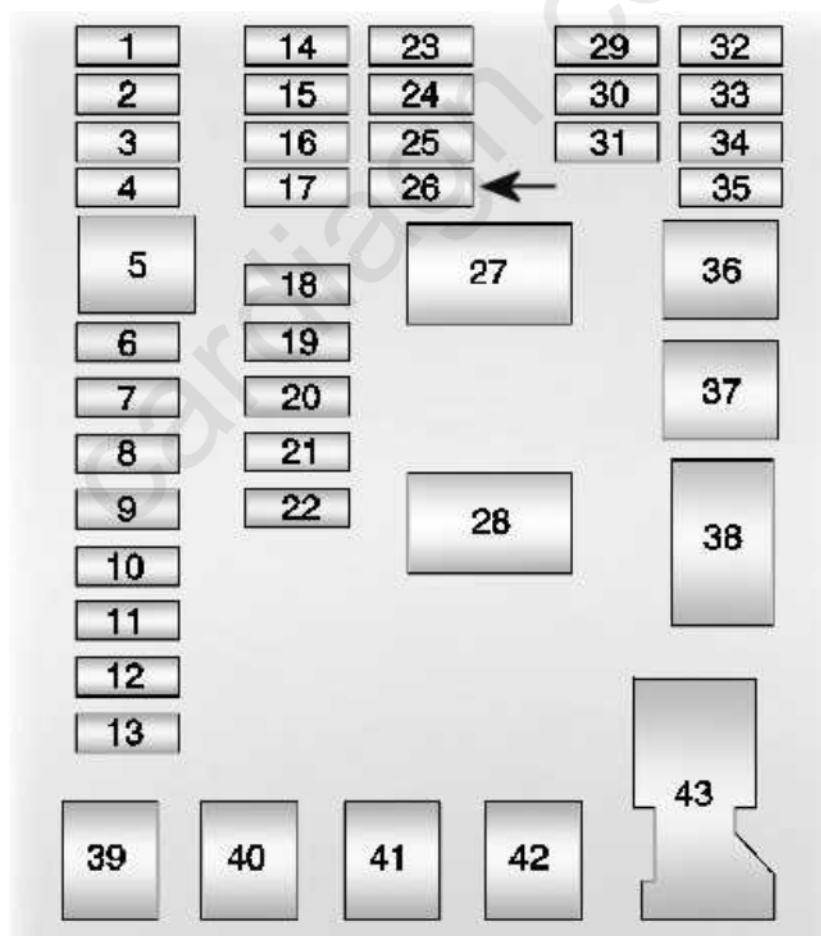

Fig. 6: Instrument Panel Fuses (Sonic)
- **2012-16 Sonic** : Fuse #F26 (F26DA) Under Dash (lower-left of dash - **Fig. 6**)